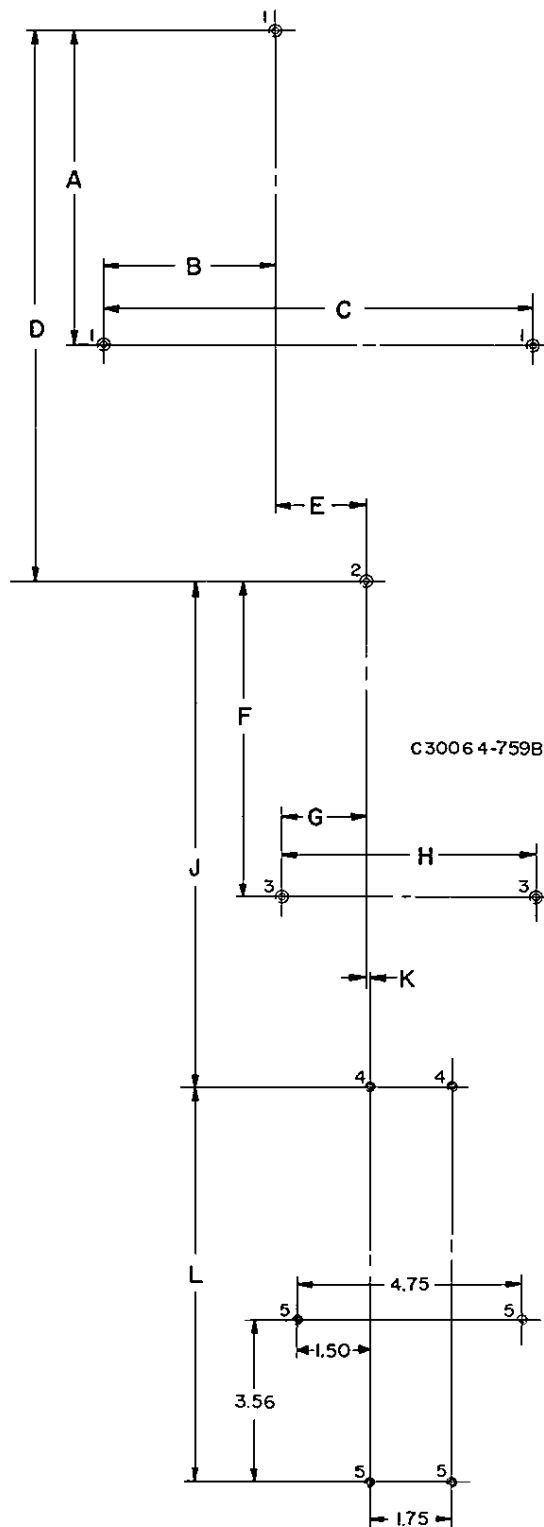

FIGURE 4
3. Drill and tap the panel as indicated in Tables 1 and 2 and mount the assembled device with appropriate screws. For vertically mounted devices, see Figure 4 and Table 1 for mounting dimensions. For horizontally mounted devices, see Figure 5 and Table 2 for mounting dimensions.